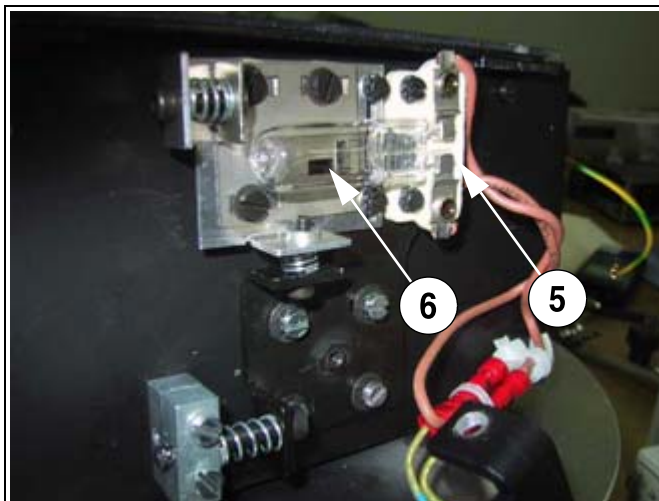

Fig. 89: Lamp socket
- ⇒ The light coil of the lamp must be positioned over the rectangular light aperture (6/Fig. 89 / p. 91).